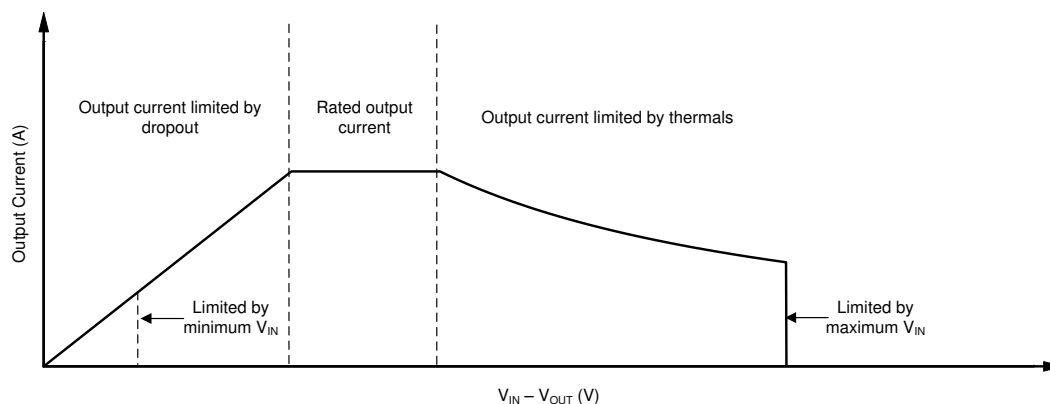

图 8-3. Region Description of Continuous Operation Regime
The operational area of an LDO is limited by the dropout voltage, output current, junction temperature, and input voltage. The recommended area for continuous operation for a linear regulator is given in 图 8-3 and can be separated into the following parts:
- The shape of the slope is depicted in the third region of Figure 8-3. The slope is nonlinear because the maximum-rated junction temperature of the LDO is controlled by the power dissipation across the LDO. Thus, when $V_{IN} - V_{OUT}$ increases the output current must decrease.
图 8-3 shows the recommended area of operation for this device on a JEDEC-standard high-K board with a $R_{\theta JA}$, as given in the Thermal Information table.